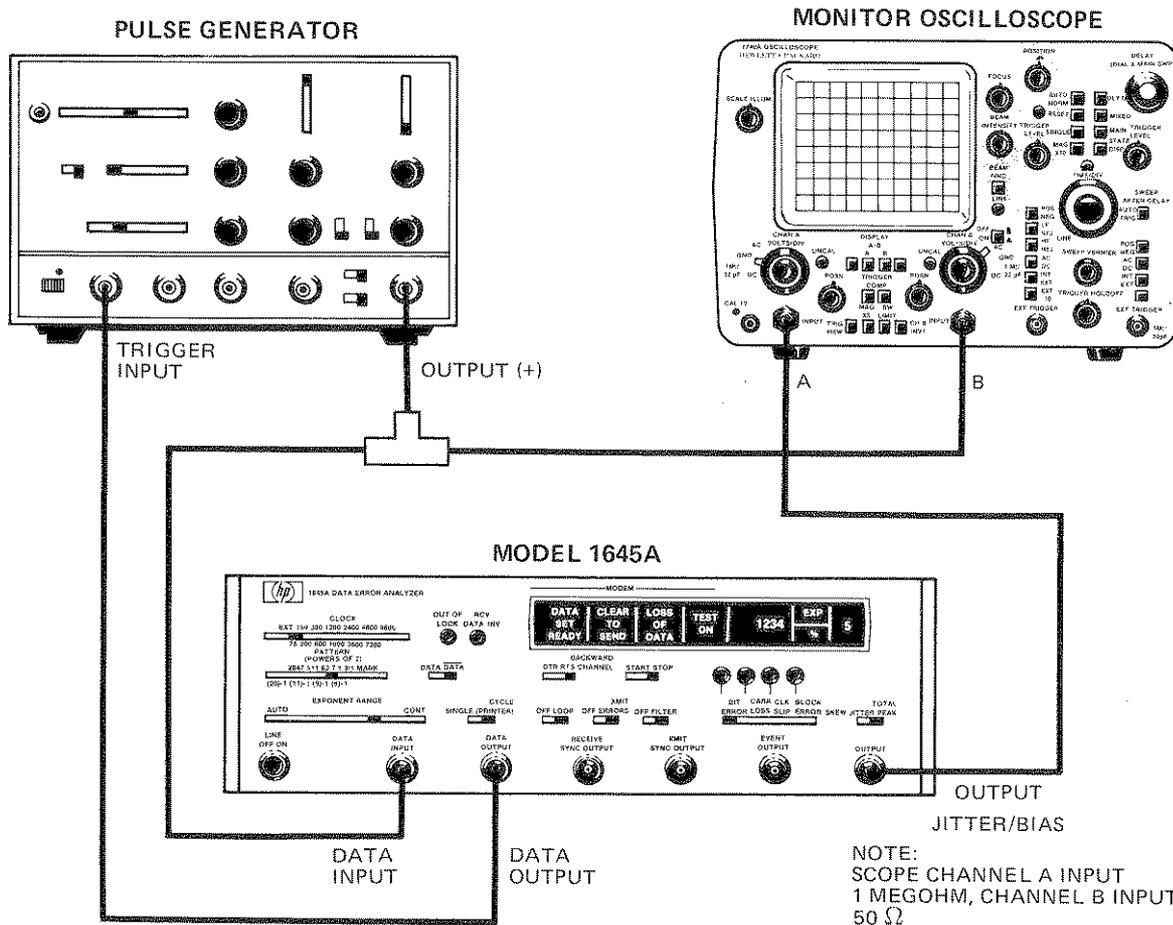

Figure 4-3. Jitter/Total Peak Test Setup
a. Connect test equipment as shown in figure 4-3.